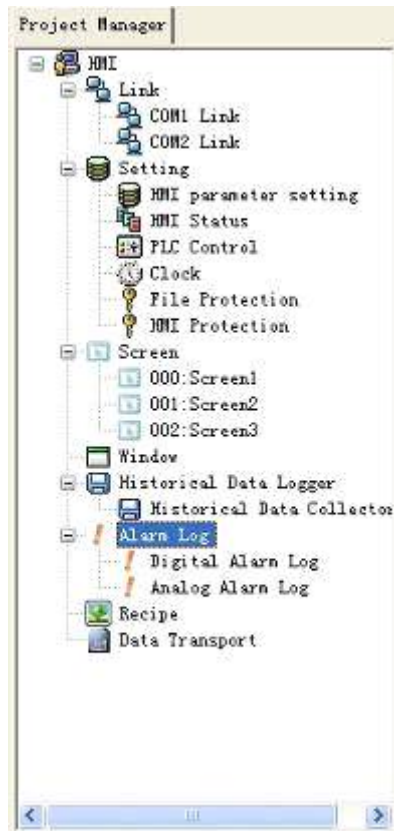

Figure 7-16 Select alarm log
- Select “Alarm Log” in project manager to set digital alarm and analog alarm, as shown in figure 7-16.